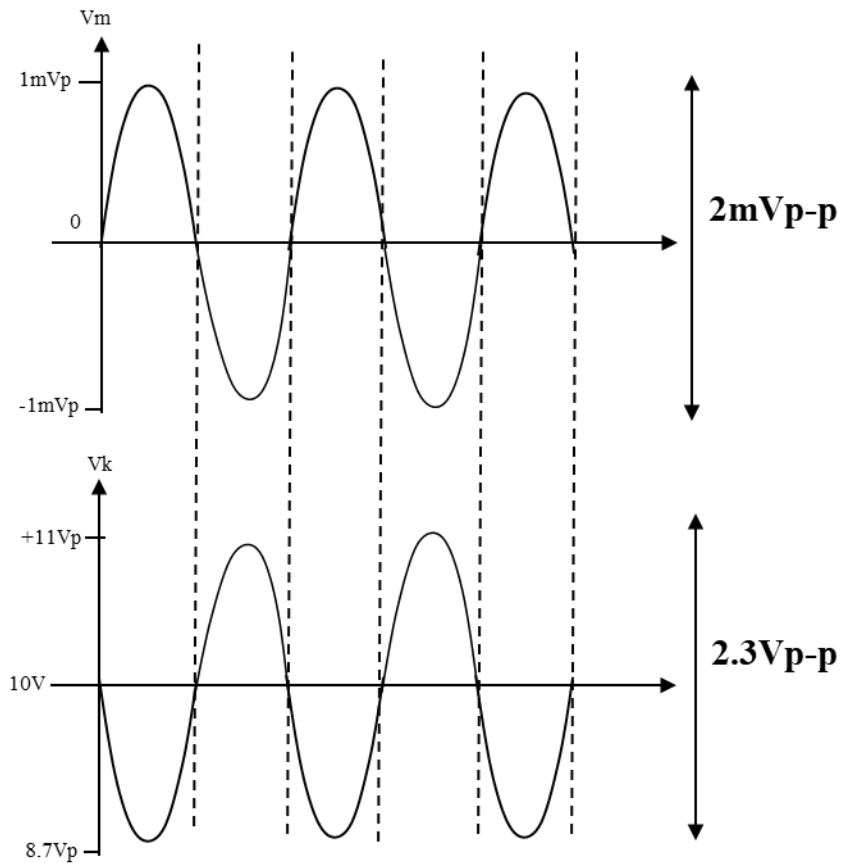

Figure 3.22: Input and Output Voltage Phase Difference
- The phase difference between the input and output voltages is 180° , as shown in Figure 3.22.
- Referring to Figure 3.22 :